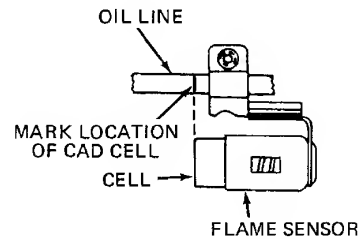

Fig. 6 — Old Style Flame Sensor.
B. Oil Line-Mounted Flame Sensor (Fig. 6)
1. Observe flame sensor position and mark location of Cad Cell on the oil line for reference as shown in Fig. 6. Then remove and discard the entire Flame Sensor by removing screw holding mounting bracket to the oil line.